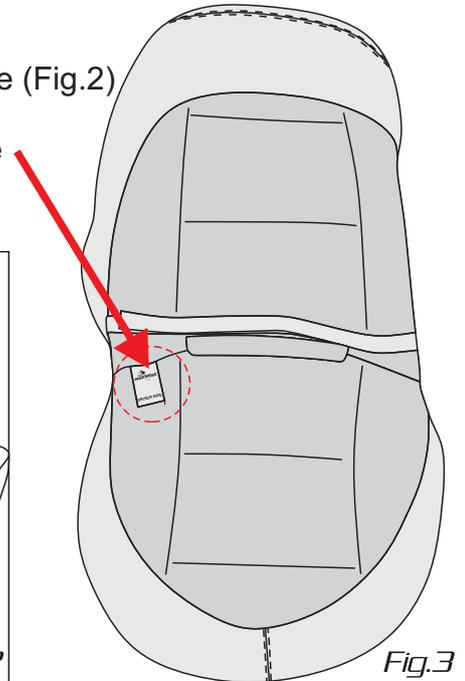

Fig.3
3. Determine the side of the seat cover by locating the care label on the inside of the seat base cover (Fig 3.)